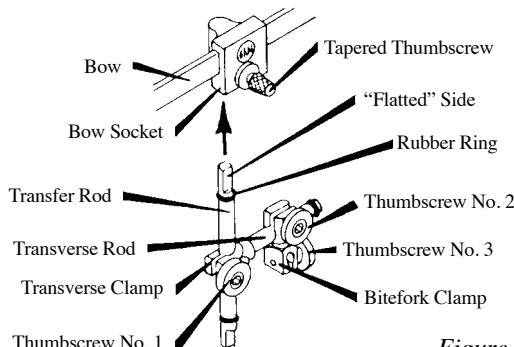

Figure 7
3. Insert the Transfer Rod into the Bow Socket, Figure 7. Align the "flattened" side toward the front and insert to the Rubber Ring "stop." Finger tighten the tapered Thumbscrew against the "flattened" side of the Transfer Rod.